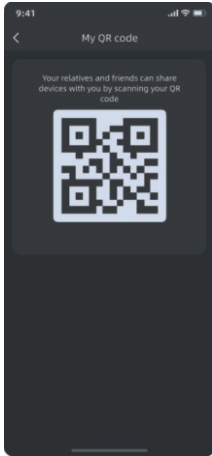

Figure 2
2)Figure 2: The other party can display the QR code of the sharing device in **"My - My QR Code"**.